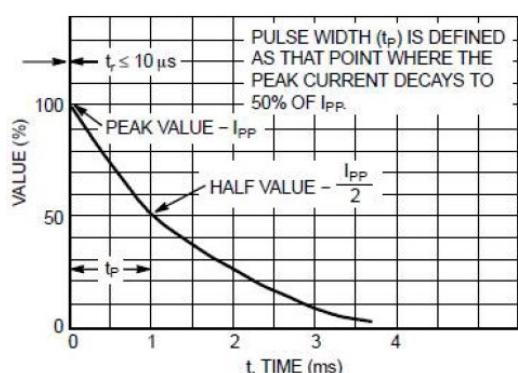
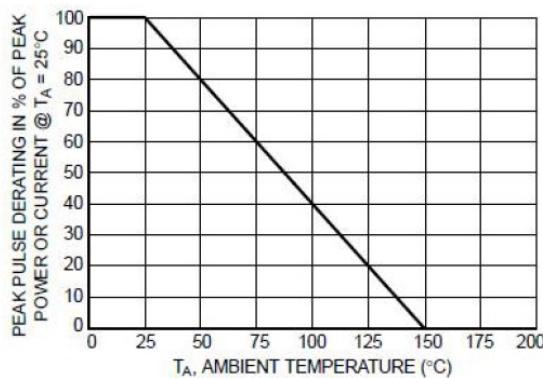

Figure 5. Pulse Waveform
Figure 6. Pulse Derating Curve
- ◆ Peak Power 24 or 40 Watts @ 1.0ms(Unidirectional), per Figure 5 Waveform
1. Non-repetitive current pulse per Figure 5 and derate above TA=25°C per Figure 6;
6. Surge current waveform per Figure 5 and derate Figure 6